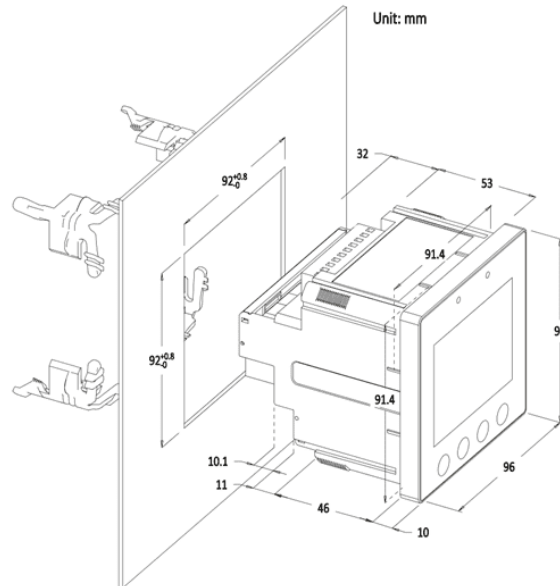

Figure 2-12 Installation
- Fit the meter through a 92mmx92mm cutout as shown in Figure 2-12